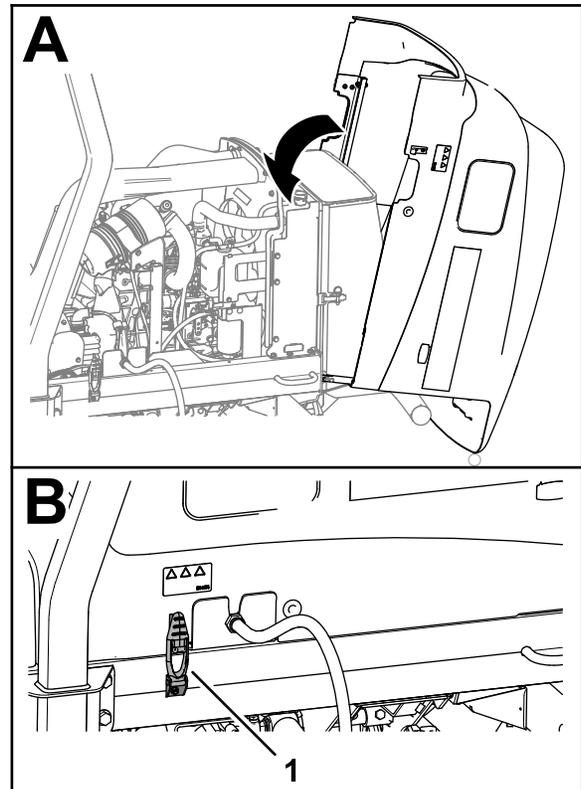

Figure 65
1. Carefully rotate the hood closed (Figure 65).